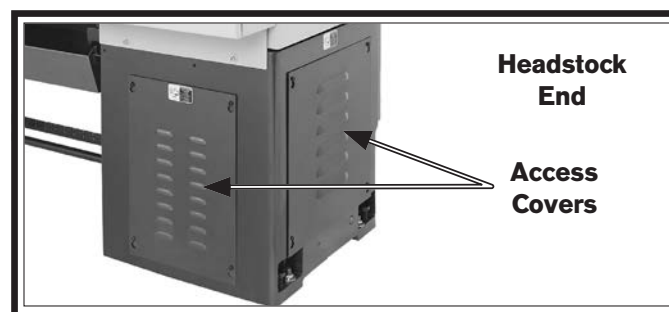

Figure 124. Locations of motor access covers.
2. Remove the motor access covers shown in **Figure 124**.